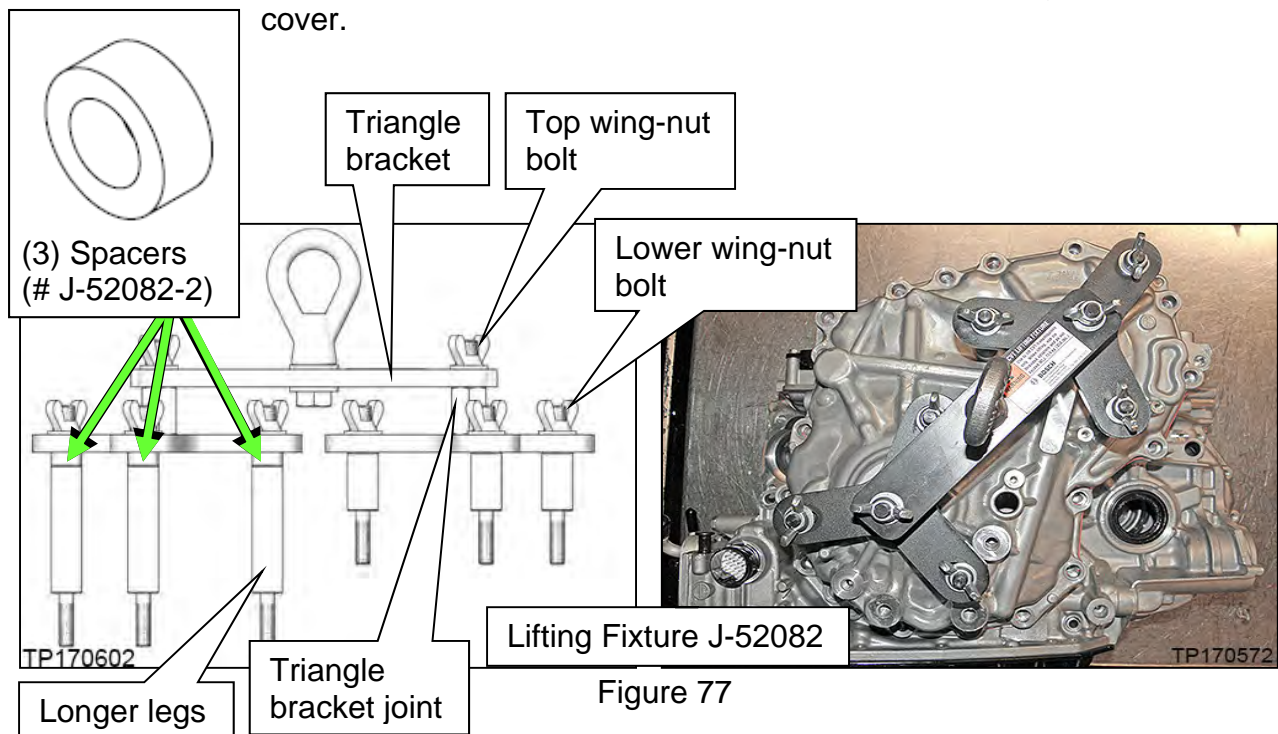

Figure 77
55. Remove the six (6) pulley bracket bolts.
56. Attach universal Lifting Fixture J-52082 with spacers J-52082-2 to the side cover as shown in Figure 77.
- Confirm that three (3) spacers (# J-52082-2) are present between the longer legs and triangle bracket as shown in Figure 77.